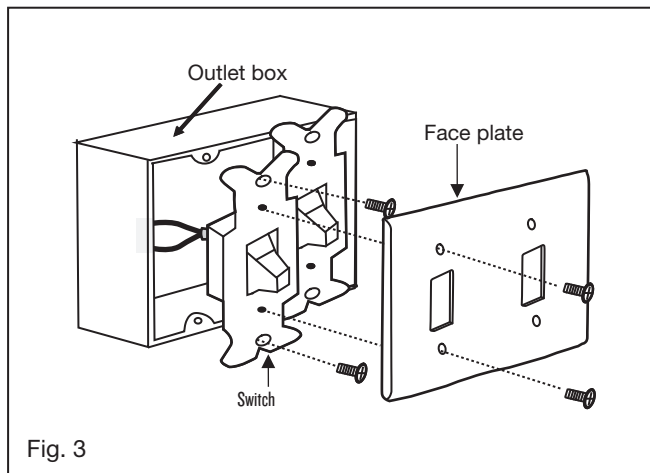

Fig. 3
- 1 Slip the yoke cover, trim ring and canopy onto the downrod. (Fig. 3)
- 1 Remove the existing wall plate and old switch from the wall outlet box. (Fig. 3)
A DOWNWARD airflow creates a cooling effect as shown in Figure 3. This allows you to set your air conditioner on a warmer setting without affecting your comfort.